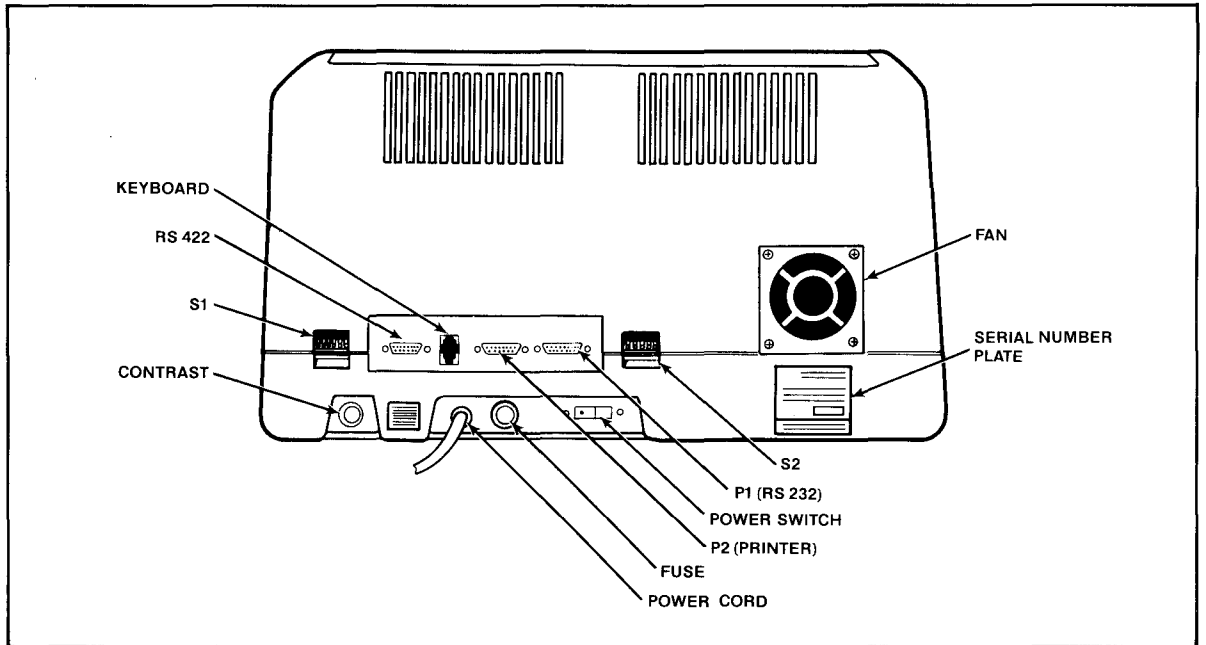

Figure 3-1 Rear Panel
Now that all peripheral devices are installed and the TS 802H is plugged in, make sure there is no diskette in the floppy drive. Turn on the TS 802H and adjust the CRT contrast if necessary (Figure 3-1).
1. Locate switch S2, dipswitch 6 (S2-6) on the rear of the TS 802H case. (See Figure 3-1.)